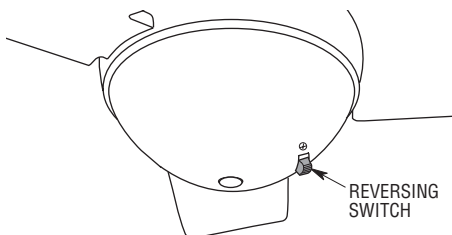

Figure 20
- ☐ 3. All fans are shipped from the factory with the reversing switch positioned to circulate air downward. If airflow is desired in opposite direction, turn your fan OFF and wait for the blades to stop turning, then slide the reversing switch to the opposite position, and turn fan on again (Figure 20).